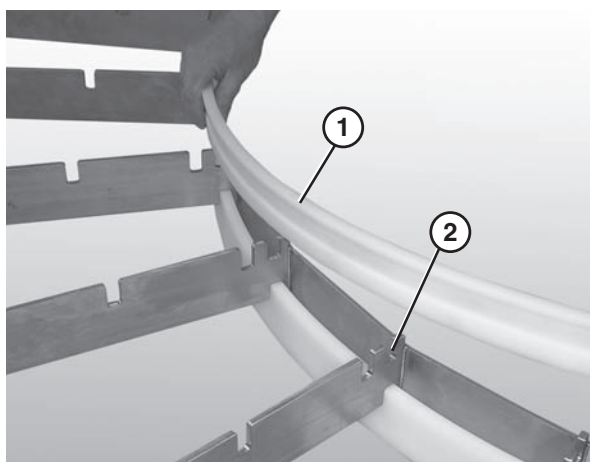

Figure 33
1. Insert inside curve top wear strip (**Figure 33, item 1**) into the innermost slot (**Figure 33, item 2**) on the inside of the frame.